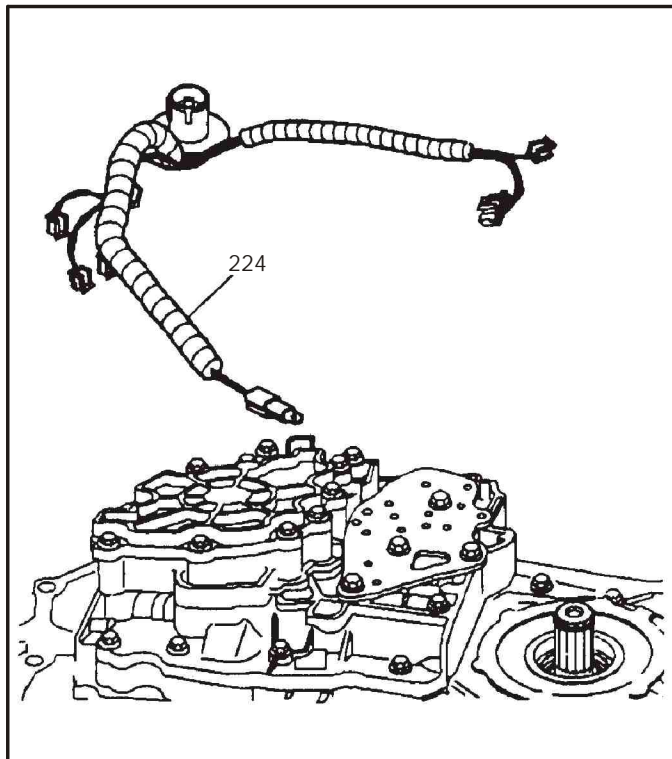

Figure 46
6. Remove the internal wiring harness from the transaxle, as shown in Figure 46.